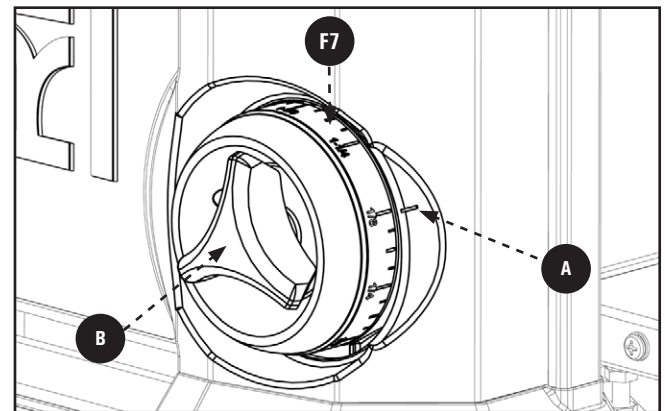

FIGURE 17
Your planer is equipped with a depth stop dial **F6** as shown in Figure 17 for repetitive planing. Any thickness between 1/8 inch and 1 1/4 inch can be selected using the scale on the depth stop. Detents are provided at 1/8 inch, 1/4 inch, 1/2 inch, 3/4 inch, 1 inch, and 1 1/4 inch.
3. Turn the dial **F7** to the desired thickness setting so that it aligns with the indicator line **A** as shown in Figure 17.
4. Lock the gauge in place by turning the locking knob **B** clockwise, as shown in Figure 17.